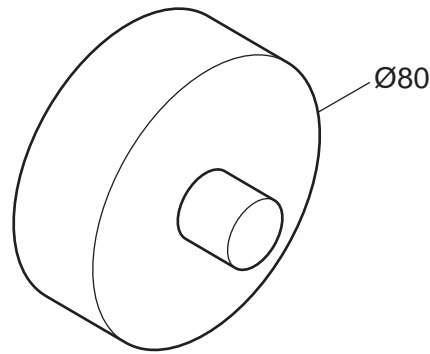

Fig. 4
- 6 Fig. 4 shows a small wheel. The wheel could be made from a single piece of wood, metal or plastic.